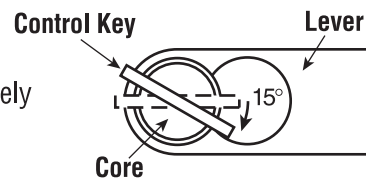

Figure 4
- B. Insert key marked CONTROL and turn clockwise approximately 15 degrees. See Figure 4.